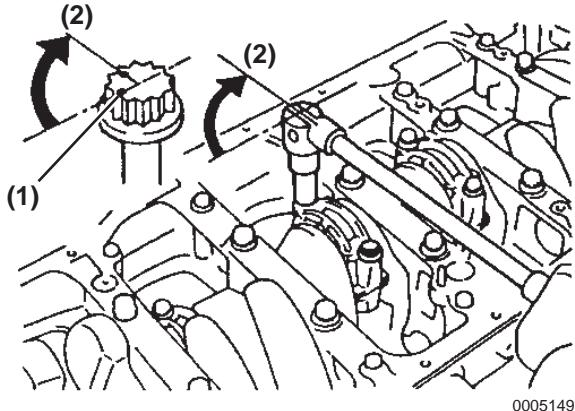

Figure 5-152
24. Make a paint mark (**Figure 5-152, (1)**) at the front of each of the connecting rod cap bolt heads.
25. Retighten the connecting rod cap bolts by turning 90° (**Figure 5-152, (2)**).